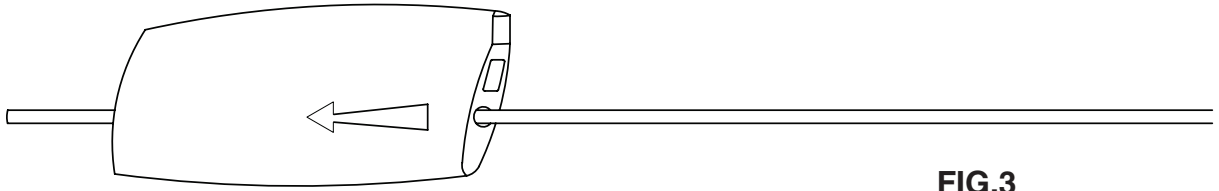

FIG.3
3. Route the bare end of the main support cable through the included clamp, then around the mounting structure, and back through the clamp. (Fig 3 and 4)
5. Route the bare end of the safety cable through the included clamp, then around a suitable support structure, and back through the clamp. (Fig. 3 and 4)